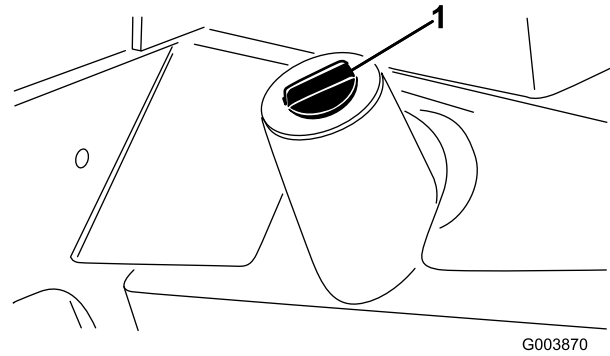

Figure 71
2. Place a large drain pan under the drain plug under the hydraulic fluid reservoir (Figure 71).
Remove the drain plug from the bottom of the hydraulic fluid reservoir (Figure 71) and let the hydraulic fluid flow into the drain pan.